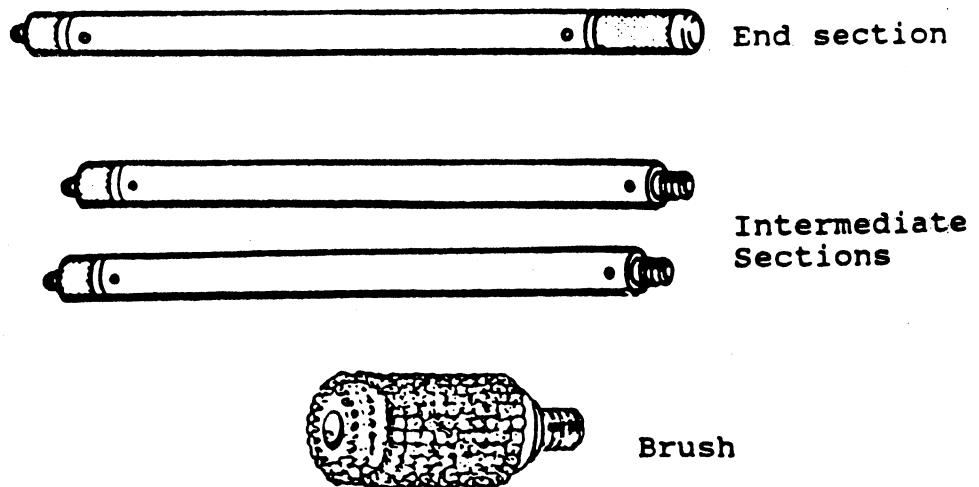

Fig 1-10. Cleaning staff.
e. Cleaning staff (fig 1-10); the cleaning staff consists of two intermediate sections, an end section and a brush section. These are assembled together and used to punch out the bore in order to loosen carbon.